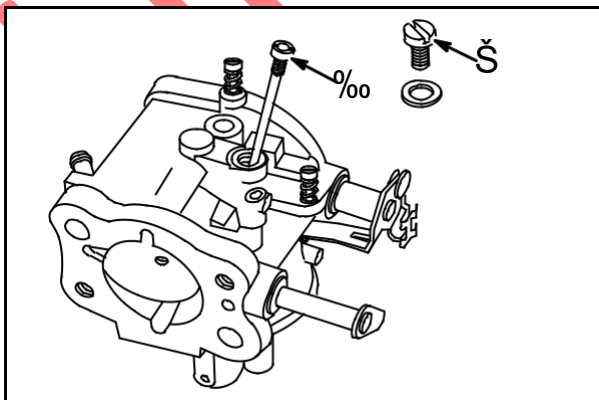

Fig. 26
6. Remove idle jet plug (10) and idle jet (9), Fig. 26.